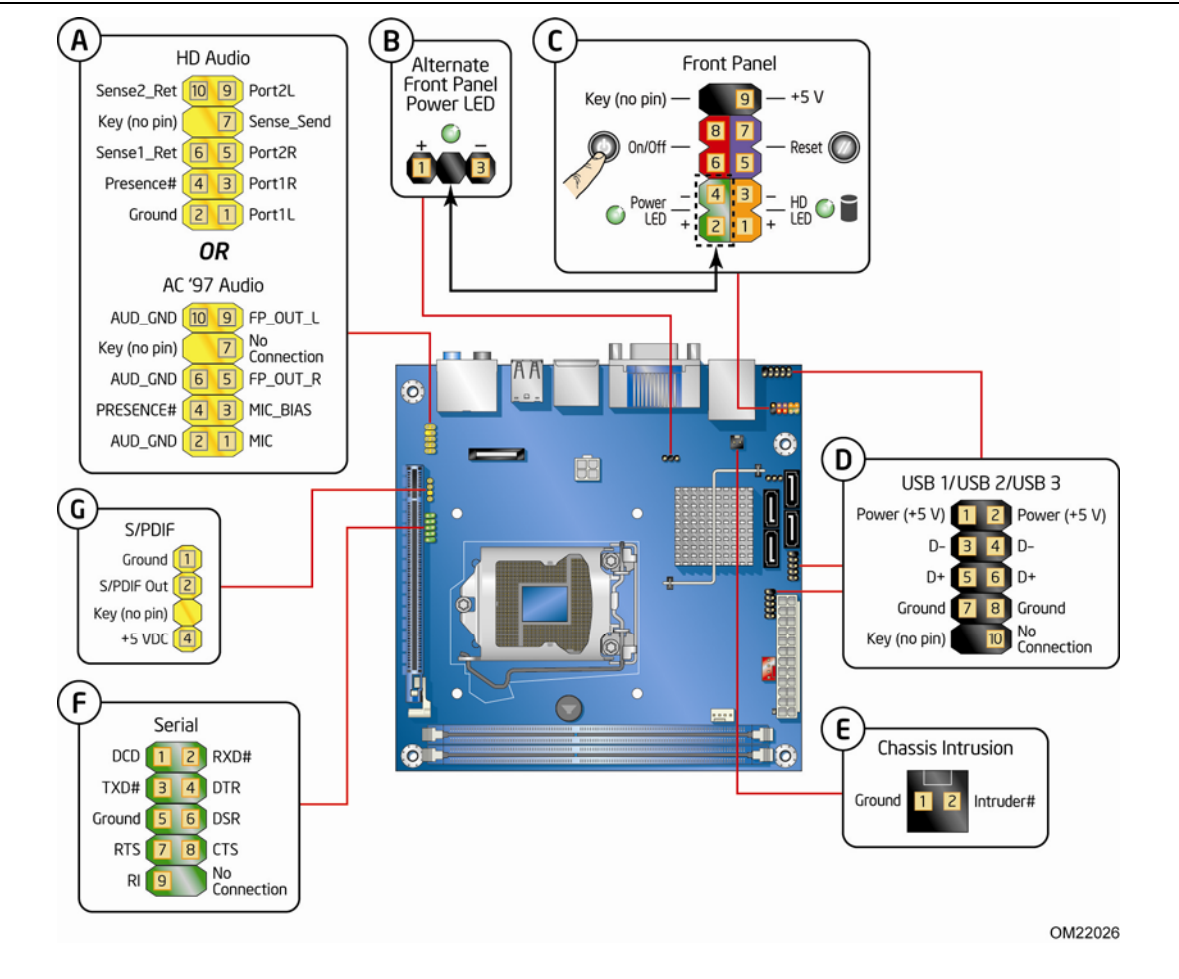

Figure 20. Internal Headers
Before connecting cables to any of the internal headers, observe the precautions in “Before You Begin” on page 27. Figure 20 shows the location of the internal headers and connectors on Intel Desktop Board DH57JG.
The front panel audio header shown in Figure 20, A supports both Intel High Definition (HD) Audio and AC '97 Audio.